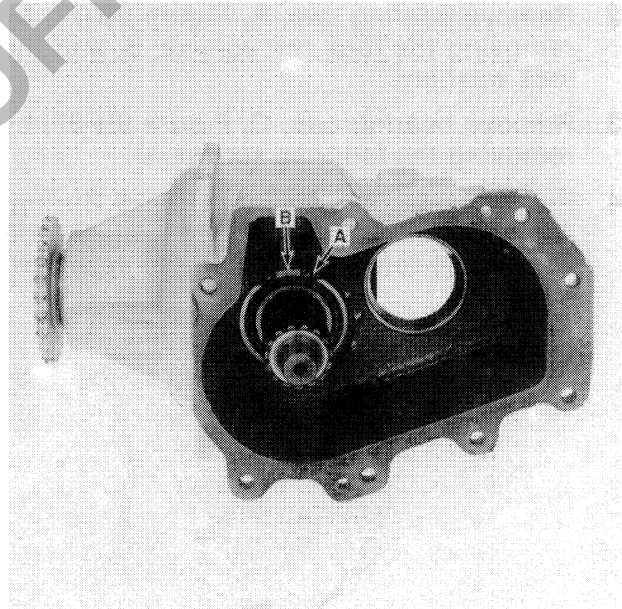

FIGURE 9B-32
9. Remove snap ring, A, Figure 9B-32. Behind this snap ring will be a series of metal shims. Remove the shims, B.